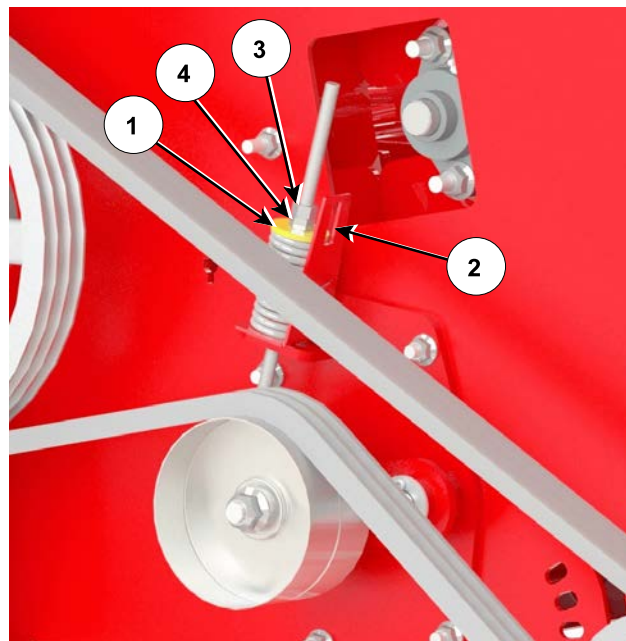

Figure 28: Belt Tension Adjustment
24. Adjust the belt tension, see *Figure 28*:
- Adequate belt tension is achieved when the spring washer (1) is showing in the cut out window (2).
- Turn the nut (4) next to the spring washer to adjust the spring so it shows in the cut out window (2).
- Tighten the jam nut (3).